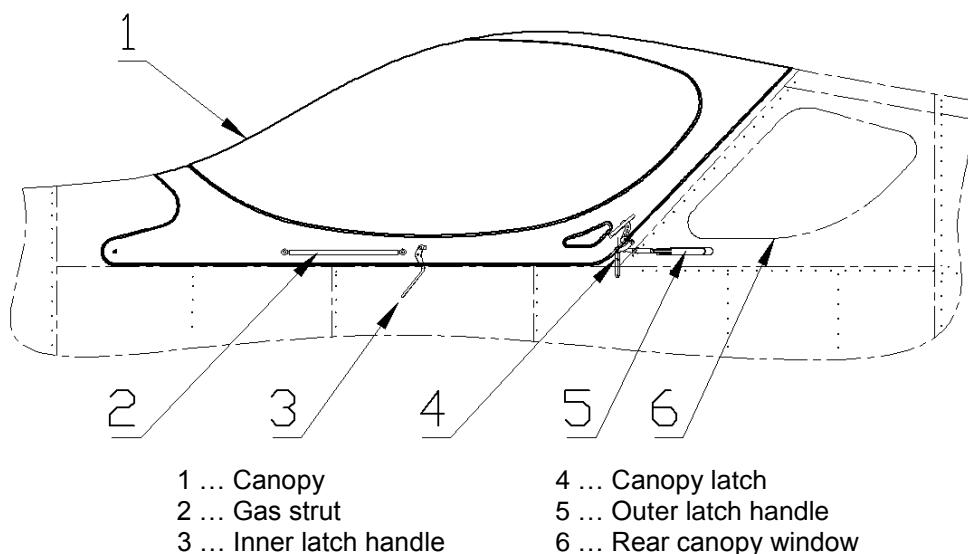

Fig. 3-2: Canopy, rear canopy window
The canopy (see Fig. 3-2) has a semidrop shape and enables access to the cockpit. The canopy consists of carbon frame on which the windscreens are attached. The canopy is suspended in two swivel hinges on front sides of the composite fixed frame. The canopy can be opened forward and is lightened by a gas strut each side which keep it in the opened position. The canopy lock is placed on the left side of fuselage below the cockpit frame. The locking levers are installed inside the fixed frame. The opening lever (in cockpit) is placed on the left side wall of cockpit.
The rear fixed canopy windows (see Fig. 3-2) consists from two symmetrical windows (6) riveted and glued on the fuselage side skins.